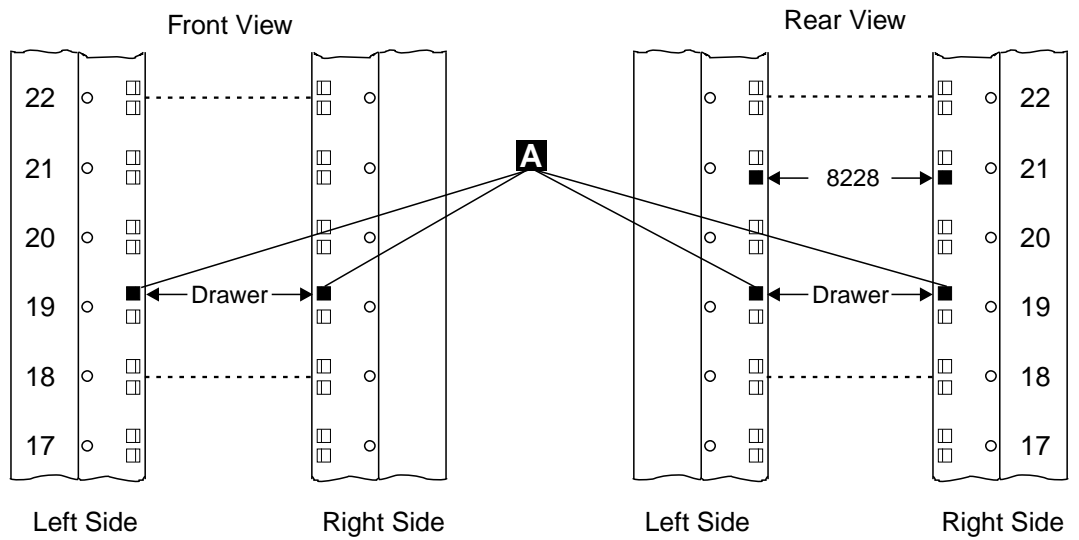

Figure 1-76. Installing Captive Nuts for the Service Drawer
9. ____ Refer to Figure 1-76, and if needed install four captive nuts **A** (PN 58G5766) on the front and on the rear side of the controller expansion.